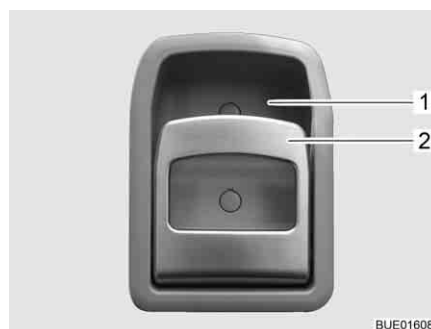

Fig. 46 Door lock of conversion door, inside
- Pull on the handle (Fig. 46,2). The door lock is unlatched or opened.
- Press the upper part of the handle (Fig. 46,2) in the direction of the recessed handle (Fig. 46,1). The door lock is locked.